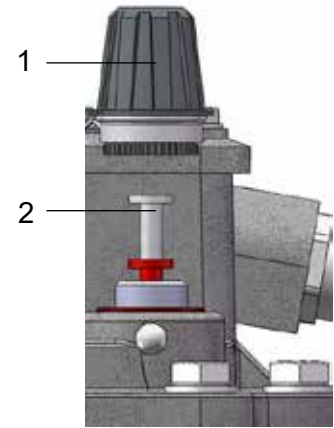

Figure 7a - Test key
- Remove the large cap nut (Fig. 7a/ no. 1)
- Press the test key (Fig. 7a/ no. 2) down to stop position and keep depressed